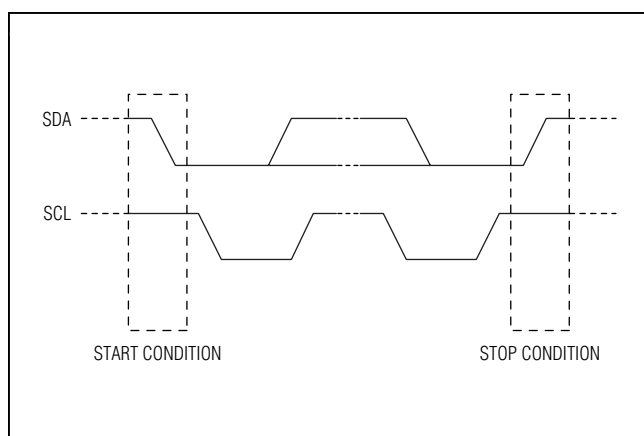

Figure 15. START and STOP Conditions
to low while SCL is high. When the master has finished communicating with the IC, it issues a STOP (P) condition by transitioning SDA from low to high while SCL is high. The bus is then free for another transmission (Figure 15). Both START and STOP conditions are generated by the bus master.